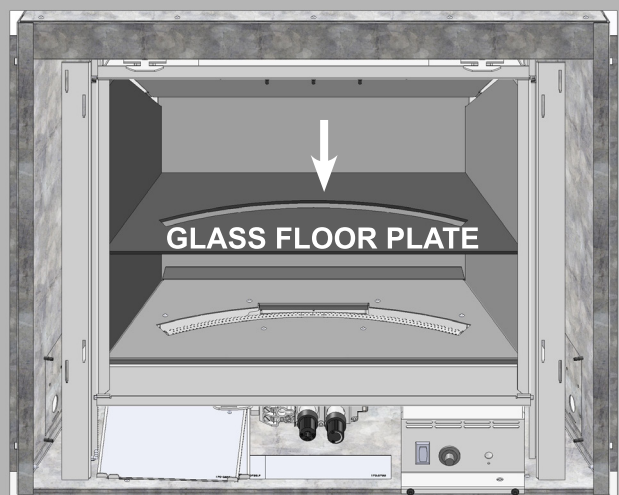

Fig.16
8. Place the floor glass on top of the floor plate assembly. (**Fig.16**) **NOTE: SMOOTH SIDE SHOULD FACE UP.**